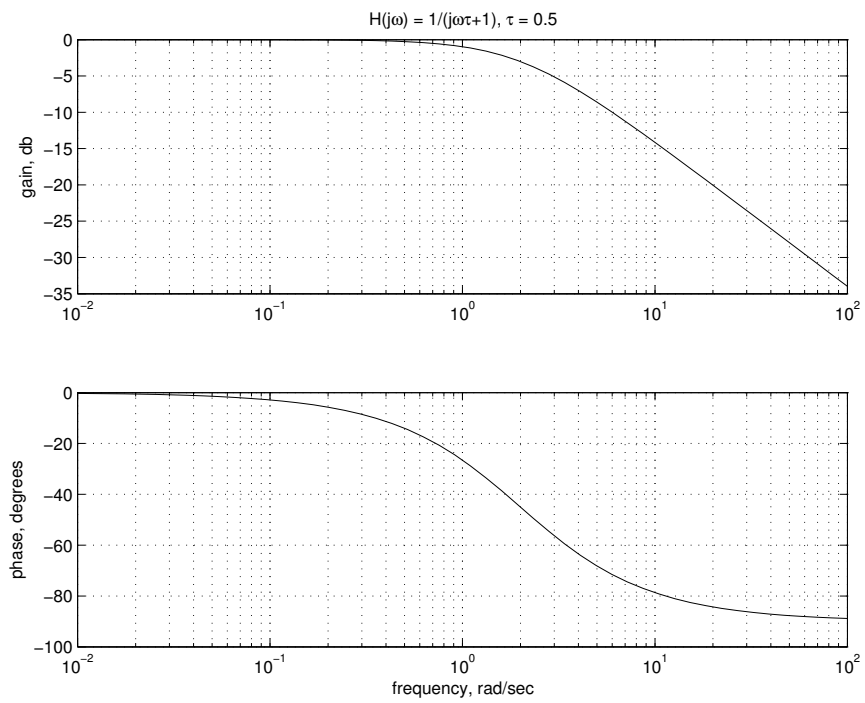

Figure 1: Frequency Response for $H(j\omega) = 1/(j\omega\tau + 1), \tau = 0.5$.
1. (a) SOLUTION: The plot is in Figure 1.
- (b) SOLUTION: We see from Figure 1 that $|H(j20)| = 0.1$ (-20 db) and $\angle H(j20) = -85^\circ$.